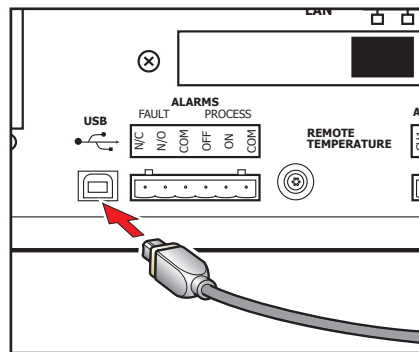

Figure 9 *USB Port Connection*
1. Rotate the body of the PRT probe connector until it locates in the socket labeled **REMOTE TEMPERATURE** (see *Figure 9*).
3. To remove the connector, slide the connector's body collar (1) back along its axis, away from the instrument, to release the lock. Gently pull the connector body out of the socket. **NOTE: Do not attempt to pull the connector out with the cable - make sure that the collar is first released.**